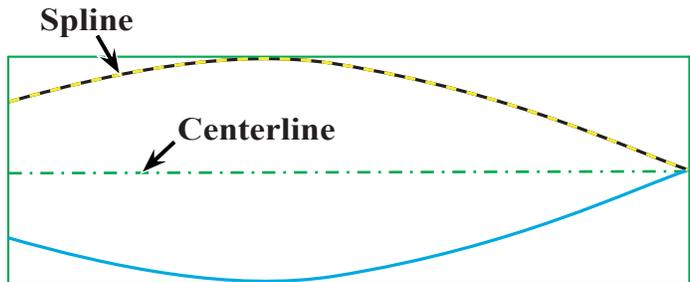

Fig. 10
Step 2. Click **spline** and click **End Selection** (ENTER), **Fig. 10**.
Click **centerline**, **Fig. 10**